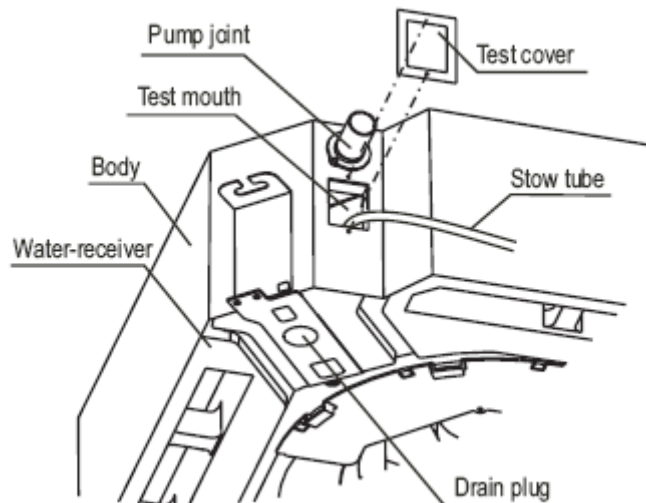

Fig.4-18
- If the outlet of the drainpipe is higher than the body's pump joint, the pipe should be arranged as vertically as possible. And the lift distance must be less than 200mm, otherwise the water will overflow when the air conditioner stops.(Refer to fig.4-18 in the figure page)